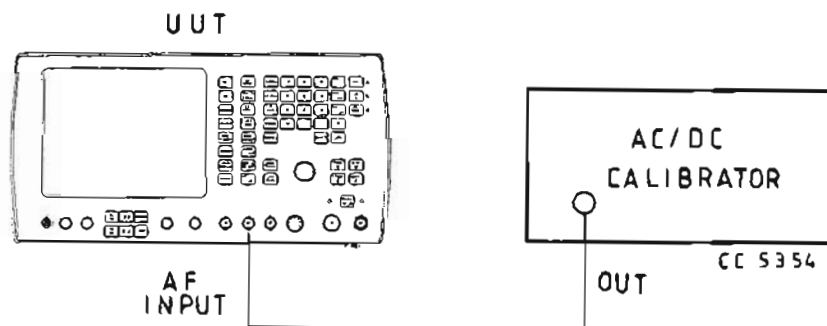

Fig. 7 Test equipment connections for voltmeter d.c. & a.f. level accuracy performance checks
- (1) Connect the equipment as shown in Fig. 7.